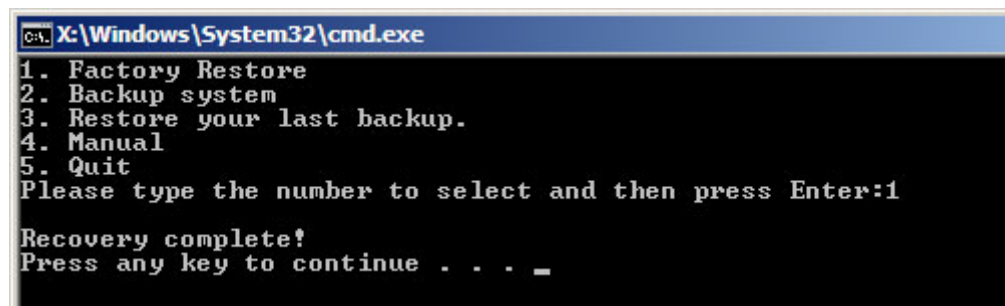

Figure B-28: Recovery Complete Window
Step 3: The screen shown in **Figure B-28** appears when completed. Press any key to reboot the system.